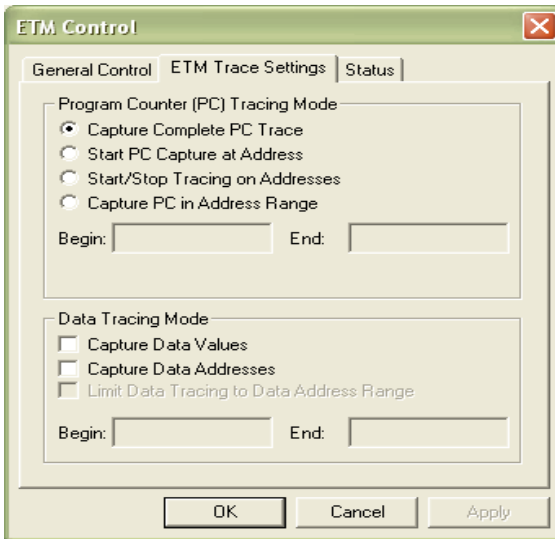

FIGURE 44 ETM Trace Settings tab.
2. Select the **ETM Trace Settings** tab to make sure that the **Capture Complete PC Trace** is enabled and that the Data Tracing check boxes are cleared (Figure 44). Click **OK** to complete the trace configuration setup.